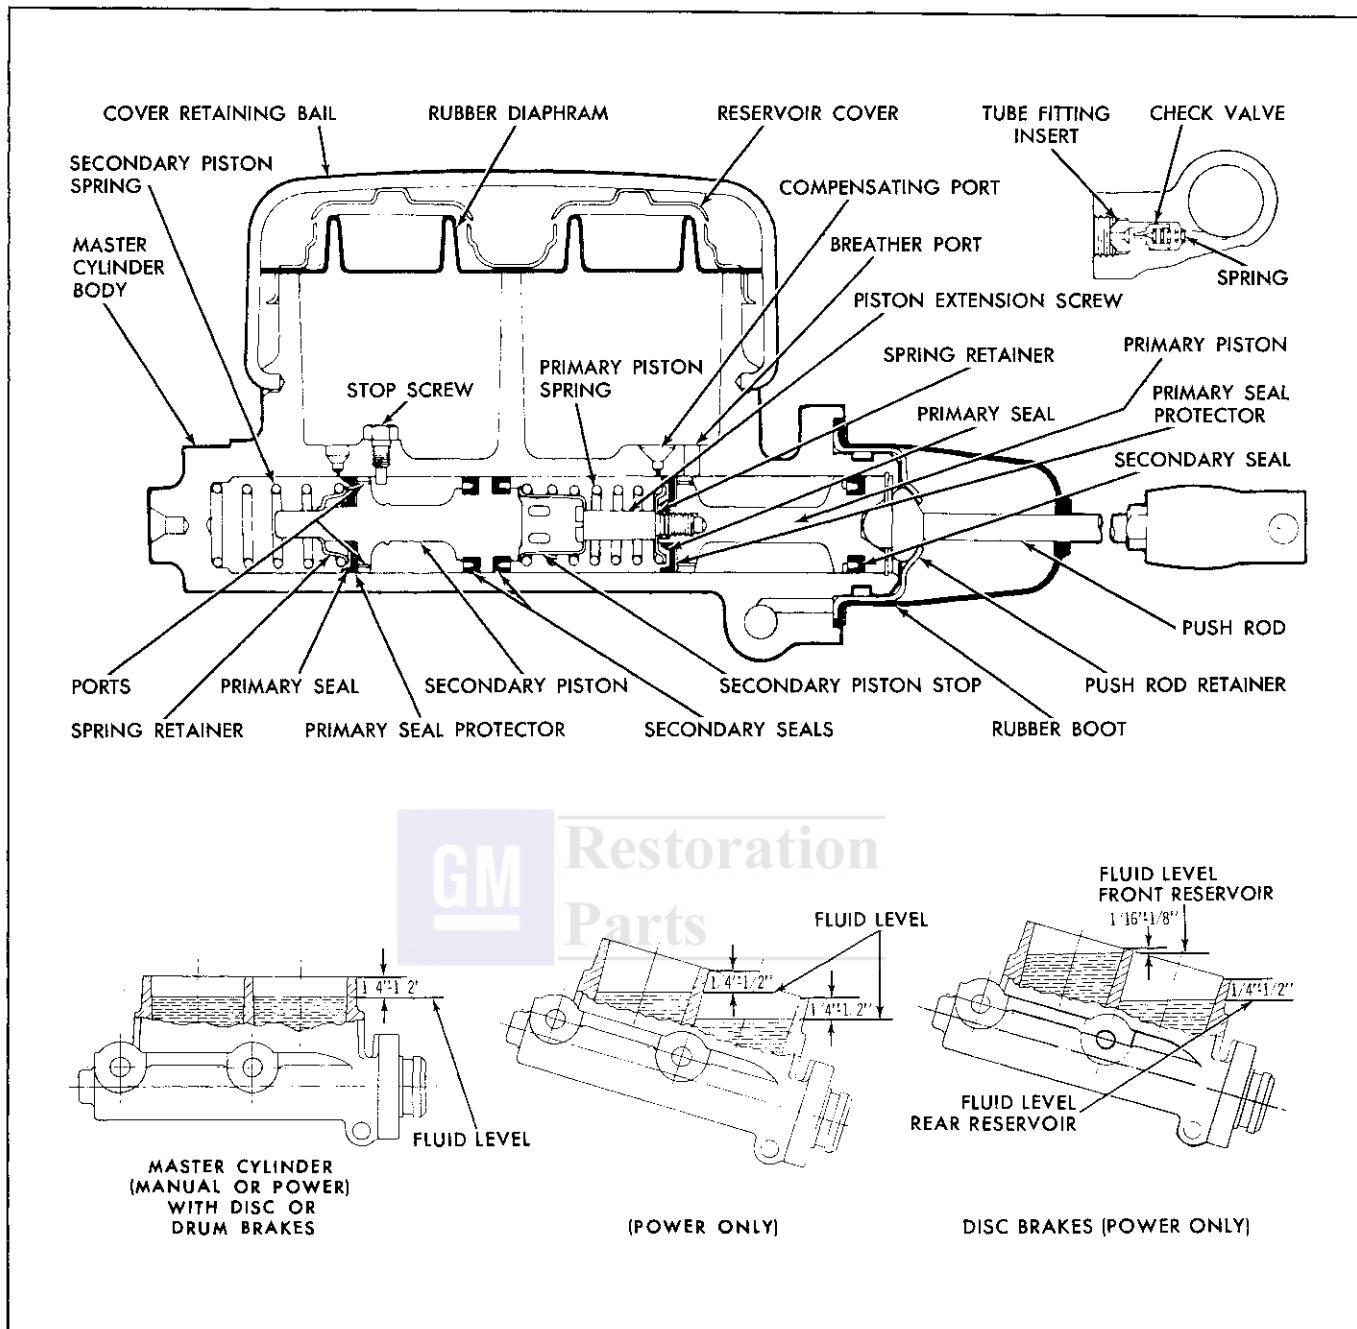

Fig. 5-6 Fluid Levels and Master Cylinder Details
1. Check fluid level in master cylinder. The level should be within 1/2 inch from top of reservoir, Fig. 5-6.